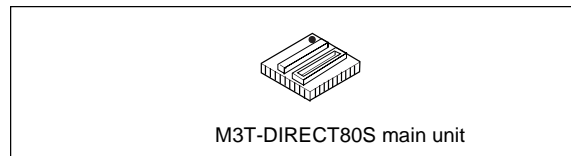

Figure 1 Package components of M3T-DIRECT80S
2. Package Components (see Figure 1)